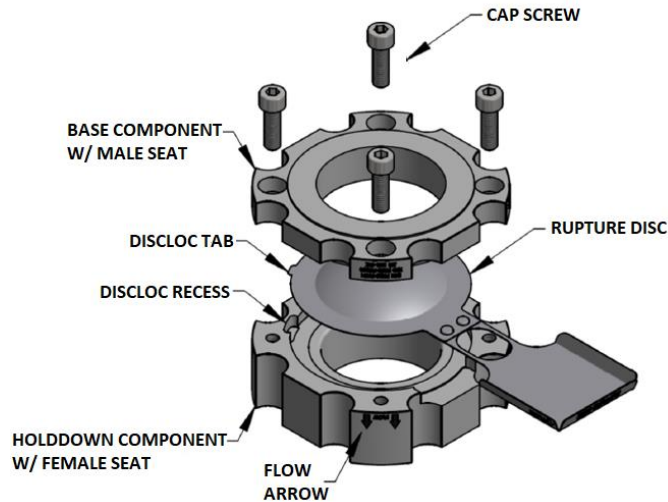

Figure 6 - Pretorqueable Holder (TQ+/TQ(+)) Full Torque Configuration Shown)
- If holder configuration is TQ, TQ+ or TQ(+) Full Torque, lubricate uncoated cap screws with light oil such as SAE grade 20. Lubricate both the threads and the underside of the head. Install lubricated cap screws and tighten until recessed and snug in the holder (see figure 6).